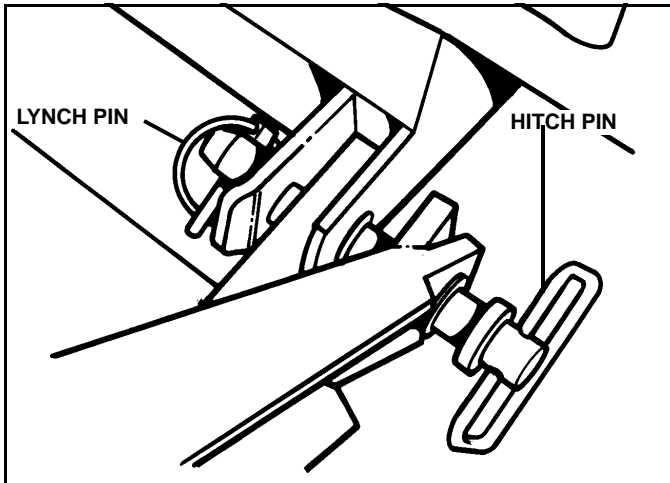

Figure 1-6
9. Remove the two (2) lower, outboard Pivot Hitch Pins. (See Figure 1-6)